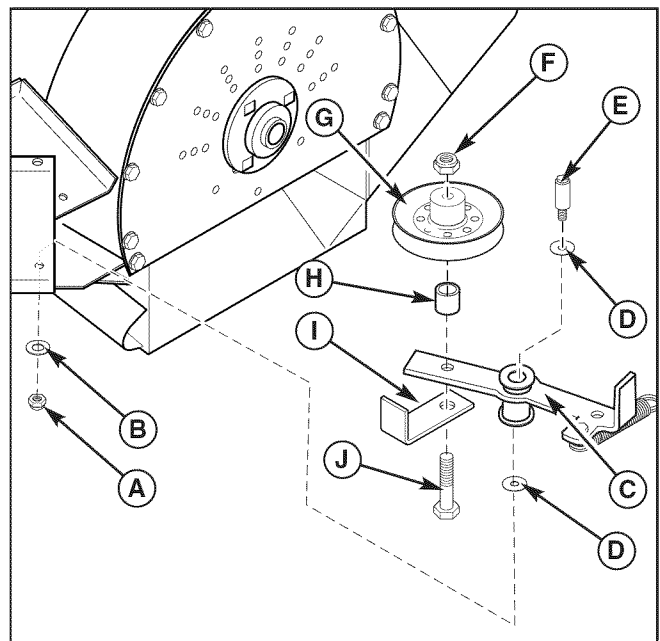
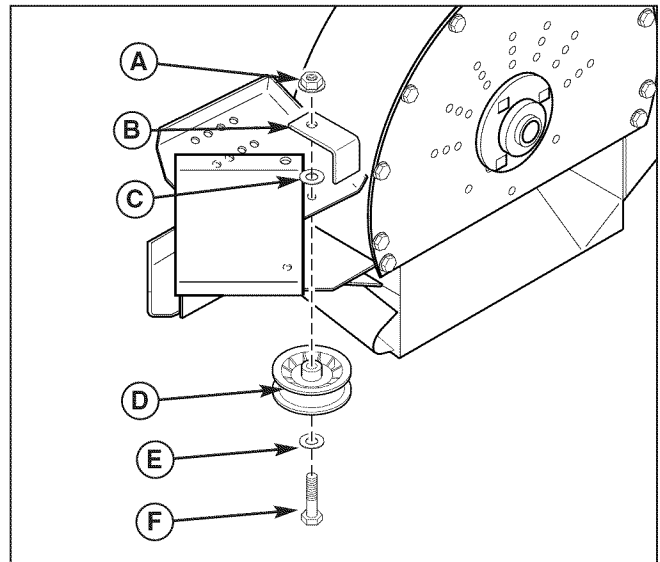

Figure 5. Updating the Idler Arm Assembly
Figure 6. Installing the New Washer
1. Loosen the 3/8-24 hex nut (A, Figure 5) that secures the idler arm (C) to the blower assembly. Remove the idler arm assembly from the blower assembly.
2. Loosen the 1/2" hardware that secures the idler pulley (G) to the idler arm assembly. Remove the idler pulley from the idler arm assembly. Discard the bolt that secured the idler pulley to the idler arm assembly.
3. Refer to figure 6. Install the new 1/2-13 X 2-3/4" bolt (J) through the belt keep (I), which should be positioned with the tab facing up, then through the idler arm (C), then through the idler pulley spacer (H), and then through the idler pulley (G) which should be positioned with the hub facing up, and secure with the 1/2-13 hex nylon nut (F).
5. Loosen the 3/8-16 hex serrated flange nut (A, Figure 6) that secures the fixed idler pulley (D), and belt keep to the blower assembly.
6. Remove the 3/8-16 hex serrated flange nut (A) and the belt keep (B) from the 3/8-16 X 2" bolt (F).
7. Refer to figure 6. Install the .41 X 1.75 X .14 washer (C) onto the bolt above the top of the blower assembly. Reinstall the belt keep (B) with the tab facing down, and secure with the 3/8-16 hex serrated flange nut (A).